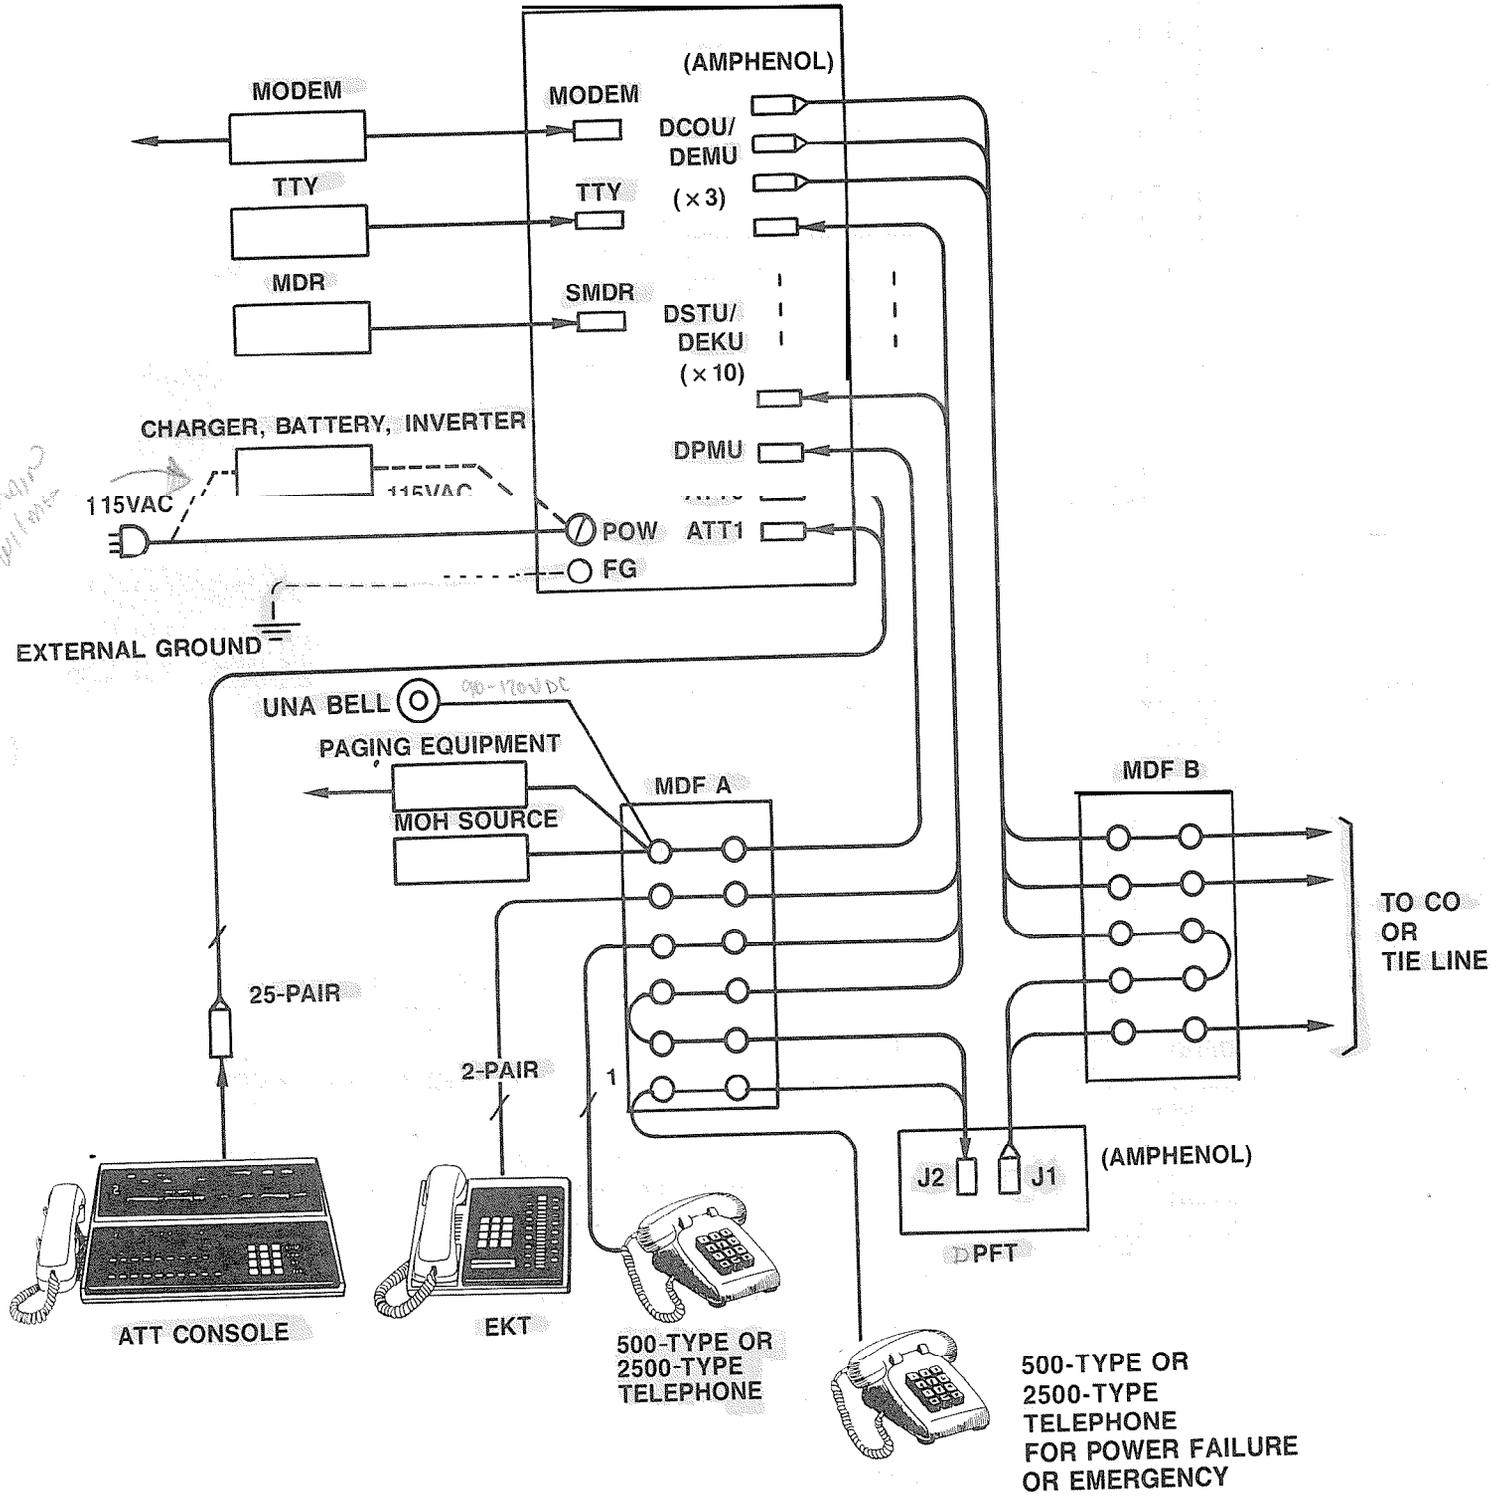

FIGURE 6—SYSTEM DIAGRAM
* **02.01** The system diagram in Figure 6 shows the central equipment cabinet, attendant console, electronic key telephone, conventional 500/2500-type telephone, and emergency transfer unit. An external customer-provided tuner (or equivalent) is required as a music-on-hold source. All connections to on-premise equipment and the public telephone network are made via a customer-provided main distribution frame (MD F).